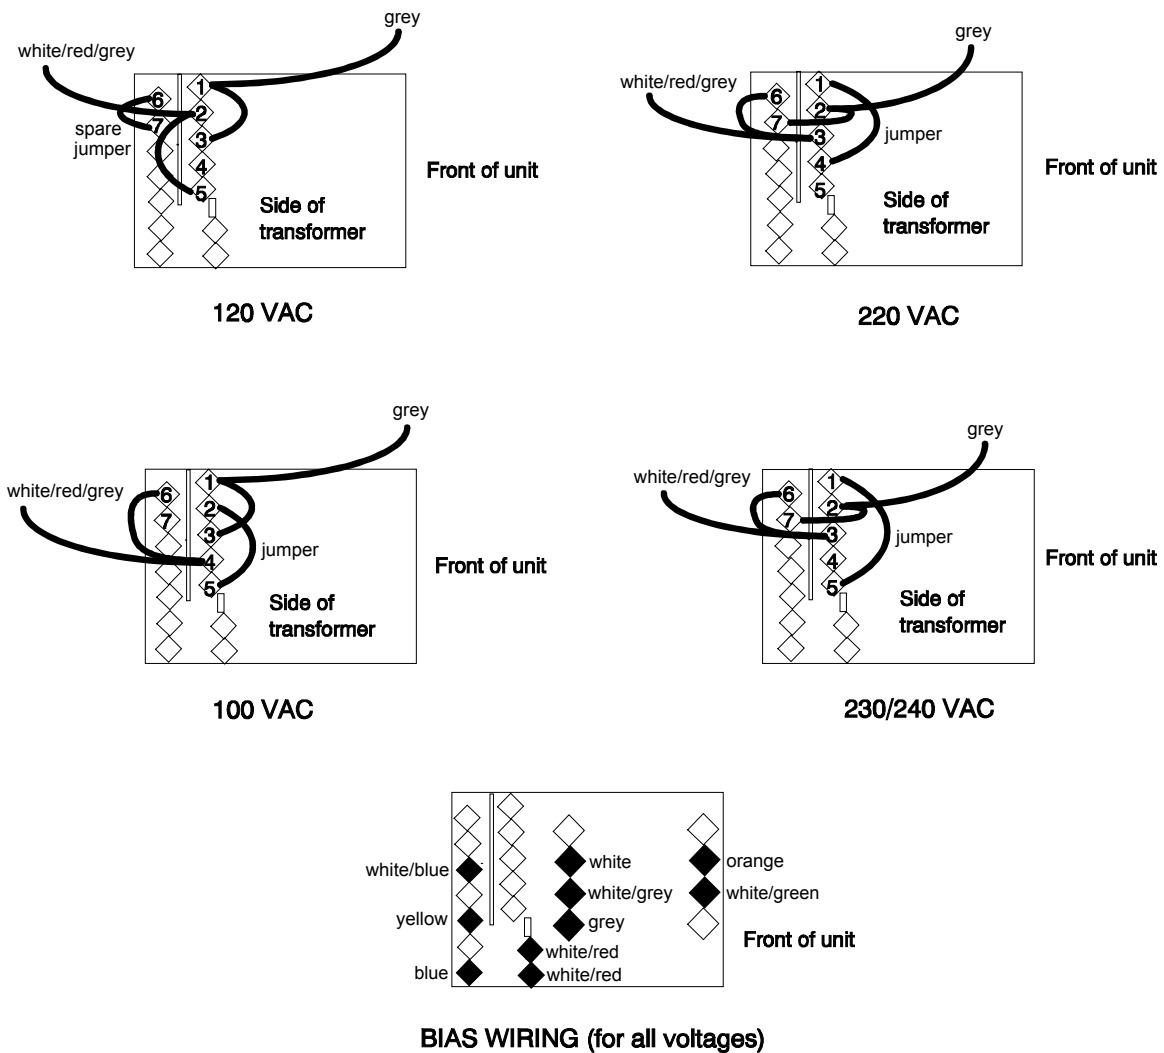

Figure 3-3. Transformer Wiring
**NOTE:** The AC power connections at the transformer primary are line voltage dependent. Refer to Figure 3-3 subsequent reconnection.
Figure 3-3 illustrates the primary wiring configuration of the power transformer for various ac line voltages. Use long nose pliers to disconnect the wires going to the transformer terminals.